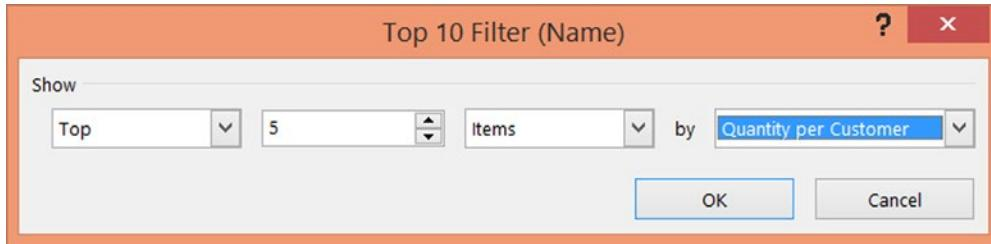

Figure 24-23. Filter criteria for top five products
6. Specify 5 as the number of items, as shown in Figure 24-23, and click OK.